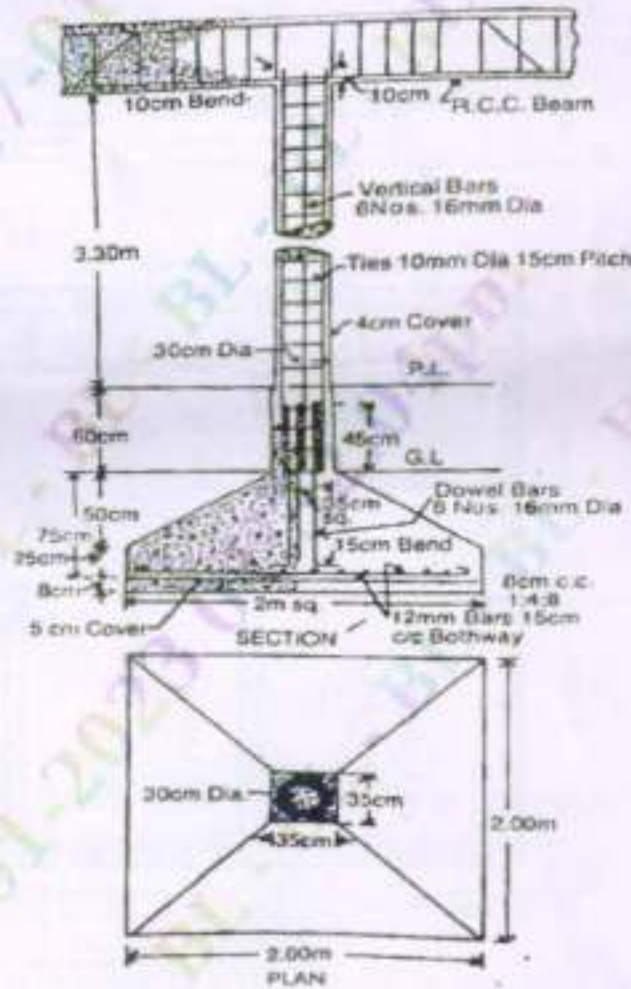

Fig.Q1
- 1 Prepare a detailed estimate of a R.C.C. column with foundation footing from the given drawing Fig.Q1.